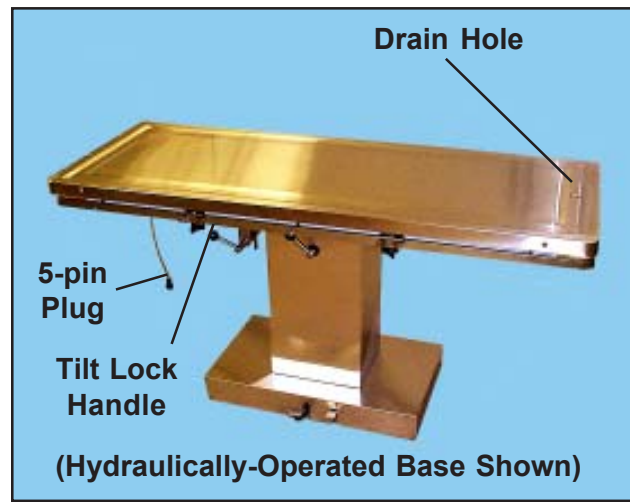

Figure 2. Table Top Mounted on Base
4. Place the table top frame on the top mounting bracket of your base (Figure 2). **Note:** Position the frame so that the end of the table with the drain hole is on the opposite side of the base from the tilt lock handle.